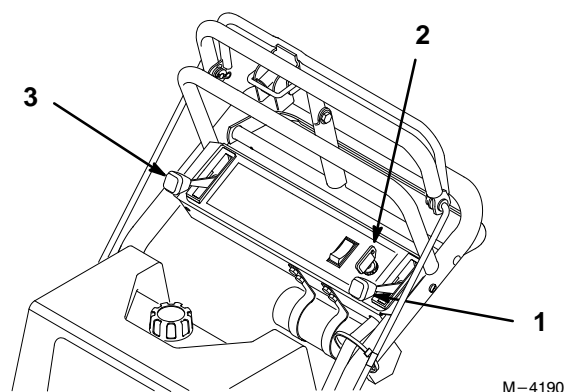

Figure 18
3. Move engine speed control to half way (Fig. 18).
4. Move choke control to CHOKE position before starting a cold engine (Fig. 18).
1. Move the throttle lever to "SLOW" (Fig. 18).
2. Turn the ignition key to "OFF" (Fig. 18).